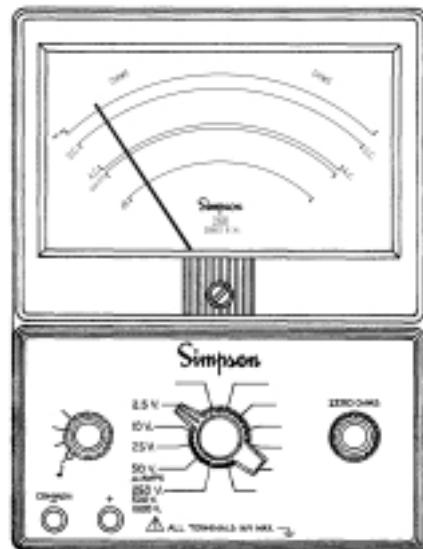

Figure 4-13. Jacks and Switch Positions for Continuity Tests
- a. Set the FUNCTION switch to the “ $\lambda$ .” Insert the black test lead into the COMMON (-) and the red test lead into the (+) jacks, (Figure 4-13).